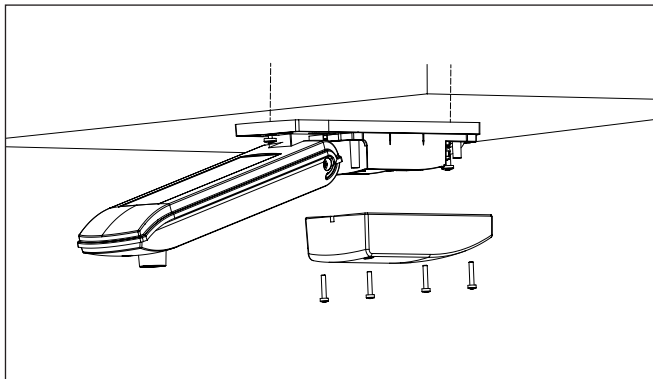

Fig. 5 Ceiling installation
- Attach the weather station to a suitable substructure using the included screws and dowels as shown (Fig. 5). The connecting cable must be correctly positioned in the guide on the back of the mounting plate to ensure it is not pinched during installation.